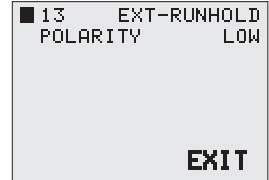

Figure 30: External RUN/HOLD calibration screen
2. Press **ENTER** in Figure 30. Enabling the external Run/Hold disabled the **RUN/HOLD** key on the jackal keypad.